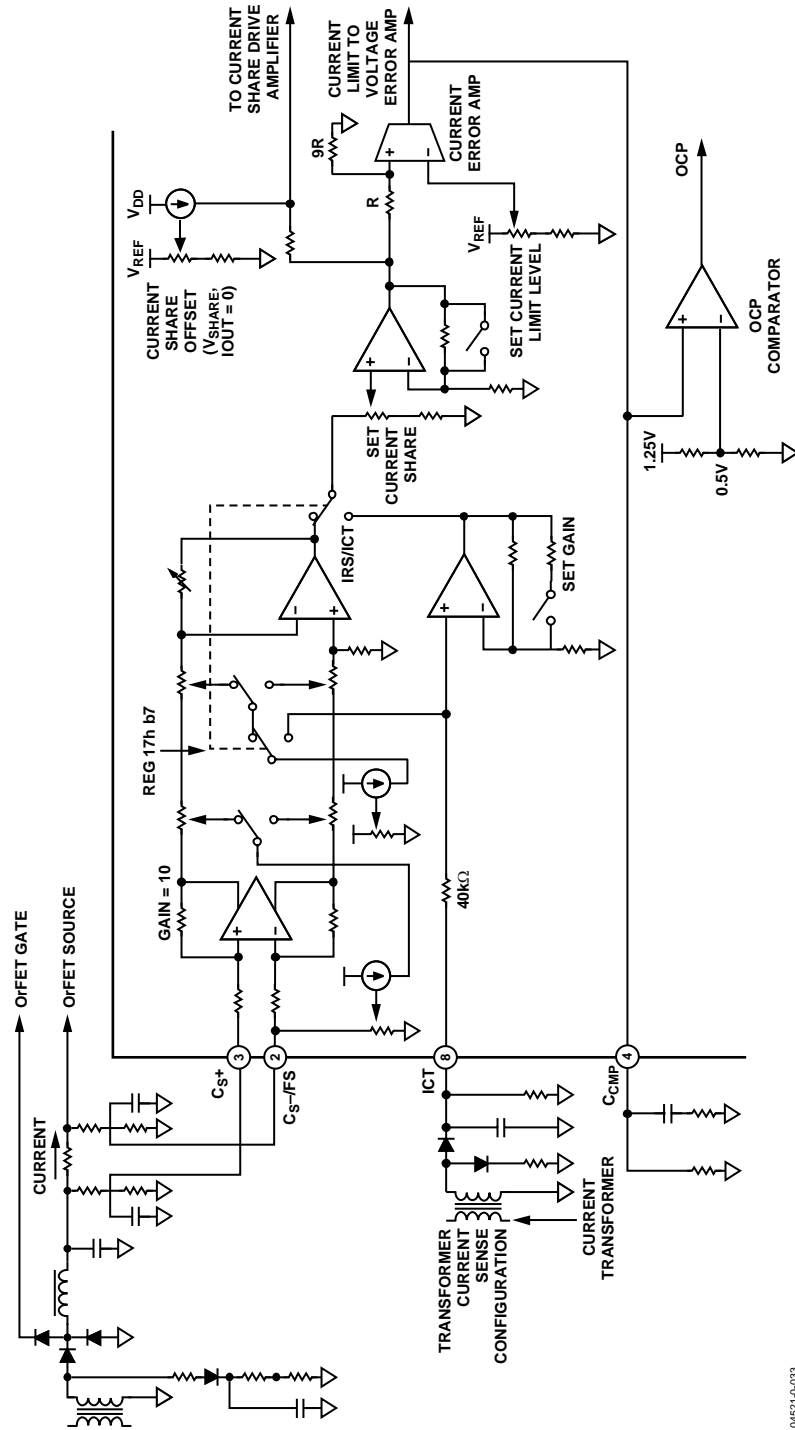

Figure 13. Current Sense
Current is typically sensed by a low value resistor in series with the positive output of the power supply, just before the OrFET or diode. For high voltages (12 V and higher), this resistor is usually placed in the negative load. A pair of closely matched voltage dividers connected to Pins 2 and 3 divide the common-mode voltage down to approximately 2.0 V. The divider ratio must be the same as used in the local and remote voltage sense circuits. Alternatively, current may be sensed by a current transformer (CT) connected to Pin 8. The ADM1041 must be configured via the SMBus to select one or the other. See Figure 13.
This offset cancellation is achieved by sourcing a current through a resistance on the ICT pin. The resistor value is 40 k Ω and so for 100 mV of offset cancellation a current of 2.5 μ A is required. It is possible to fine trim this current via Register 15h, Bits 4–0, step size 170 nA. For example, 2.5 μ A \approx 15 \times 170 nA; so the code for Register 15h is decimal 15 or 0Fh. Refer to the Current Transformer parameter in the Specifications table for more details. See Figure 13.
This is a low gain transconductance amplifier that takes its input from one of the calibrated current stages described previously. The amplifier requires only the output pin for loop compensation, which typically consists of a series RC network to common. A trimmable reference provides a wide range of adjustment for the current limit. When the current signal reaches the reference voltage, the output of the error amplifier comes out of saturation and begins to drive a controlled current source. The control threshold is nominally 1.0 V. This current flows through a resistor in series with the trimmed voltage loop signal and thereby attempts to increase the voltage signal above the 1.5 V reference for that loop. The closed voltage loop reacts by reducing the power supply's output voltage and this results in constant current operation. See Figure 13.